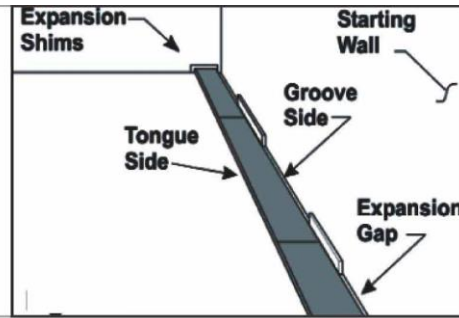

Fig. 1-2
- 1-2 Always leave 1/2" expansion gap between boards and walls (Fig. 1.2). Use expansion shims spaced every 12" along all walls to help prevent avoidable movement during remainder of installation. Ensure at least one end joint is in each row, regardless of row width (e.g., hallways)